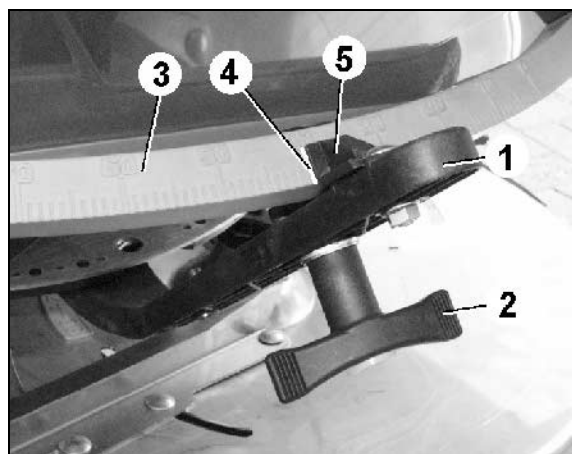

Fig. 45
2. Slacken the thumb nut (Fig. 45/2).
3. Find the required shutter slide position on scale (Fig. 45/3).
4. Set the read off edge (Fig. 45/4) of the setting lever pointer (Fig. 45/5) on to the scale figure.
5. Firmly retighten the thumb nut (Fig. 45/2).